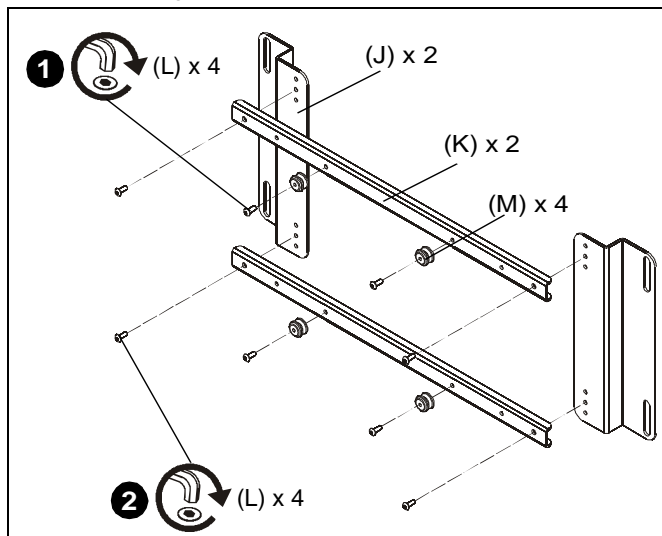

Figure 8
1. Use four #10-24 x 1/2" button head cap screws (L) and 1/8" hex key (N) to attach four mounting buttons (M) to two center brackets (K). (See Figure 8)
2. Use four #10-24 x 1/2" button head cap screws (L) and 1/8" hex key (N) to attach side brackets (J) to center brackets (K). (See Figure 8)